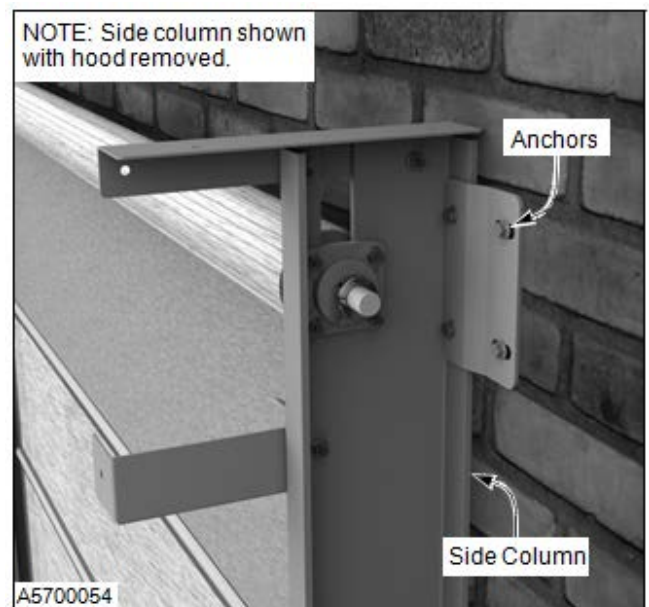

Figure 60
3. Inspect for loose or worn anchor(s). (See Figure 60)